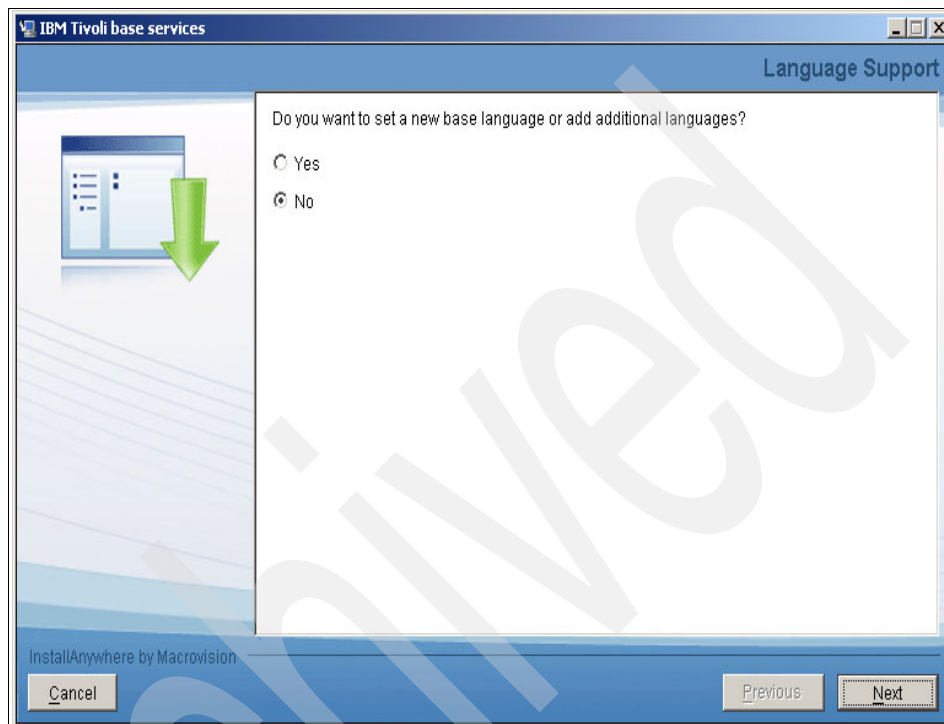

Figure 5-23 Language Support
18. You are prompted to install additional Language Packs over and above the base language (see Figure 5-23). (Configuring Language Packs is discussed in “Language pack installation” on page 113.) Click **No**.